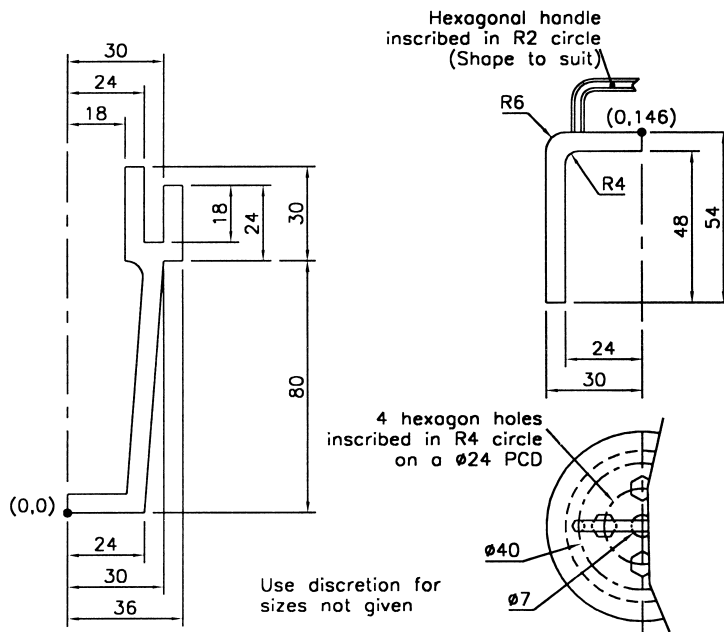

Figure 44.3 Reference details for activity 25.
- 3 With UCS FRONT, draw the two shapes using the reference sizes in Fig. 44.3. Use the start points given. Draw as lines/arcs then use the join option of the modify polyline command to convert the segments into single polylines.